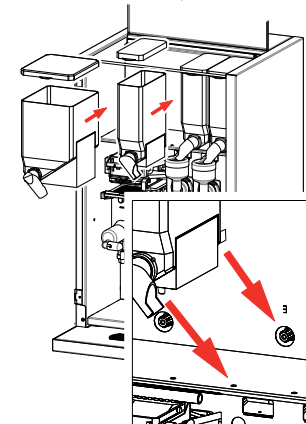

Fig. 17
5. Place the canister(s) back in the right order. Make sure that the drive mechanism of the canister falls over the cog in the back wall and that the fastening ridge goes into the hole of the plate (fig. 17).